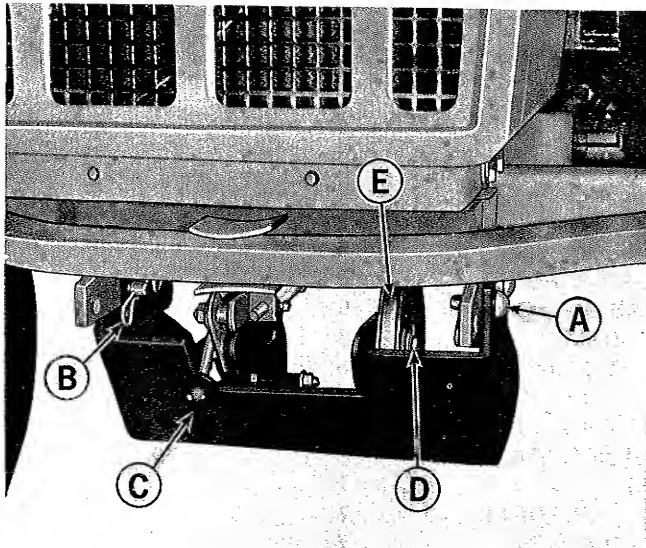

Figure 1. Installing the hitch for mid-mounted attachments.
1. See figure 1. Use four pins (A) and spring clips (B) to mount the hitch for mid-mounted attachments as shown.
12. Be sure the belt tightening handle is pulled forward in the release position as shown in (Figure 1, Item C) then place the drive belt over the mower pulley.
15. See figure 1. Remove the spring clips (B) and pins (A) and remove the hitch for mid-mounted attachments from the tractor.